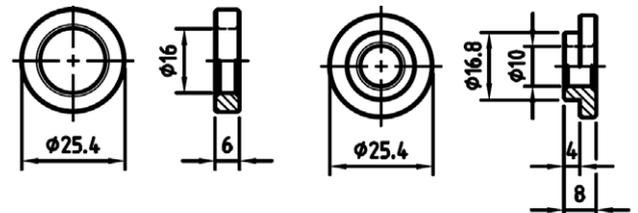

Figure 10
9. The supplied Tail Shaft Spacer was designed to fit the front tail shaft at the diff end. Apply a small amount of thread lock to the new hex head bolts supplied. In some scenarios where a fuel cooler is fitted, clearance may be an issue. The Spacer can be fitted to the transfer case end, which will provide increased clearance to the fuel cooler (see figure 10).